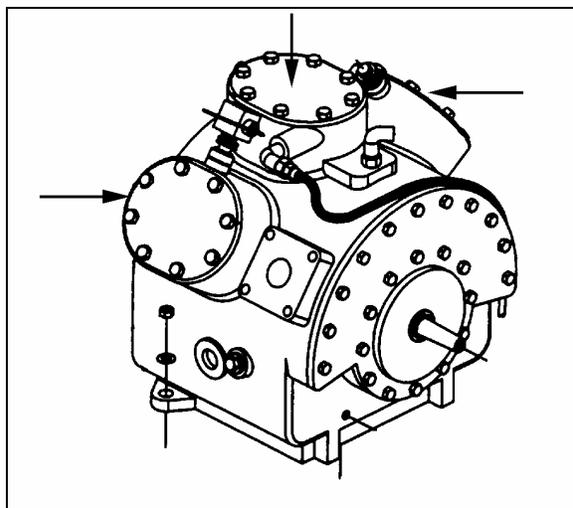

Figure 3 : Compressor three heads.
3. Clean the surface of the three compressor heads and surrounding area of all dirt, to avoid contaminating the compressor interior when the heads and valve plates are removed (see figure 3).